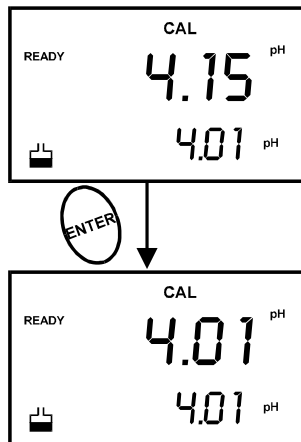

Figure 6 - Next Point Calibration for pH 4.01
- 8 Follow Steps 5 to 8 for additional calibration points. See Figure 6.